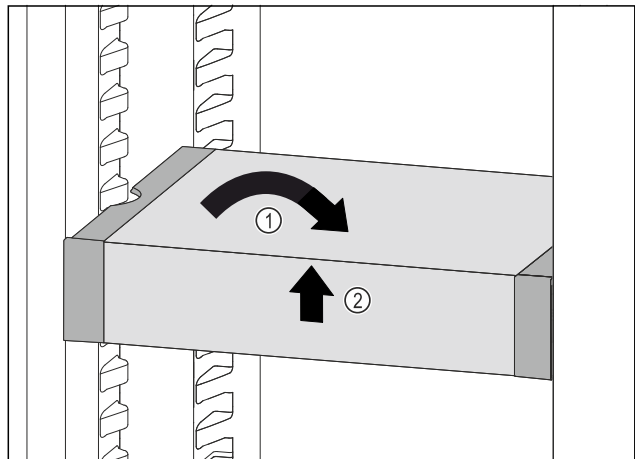

Fig. 64
- ▶ Set VarioSafe straight. Fig. 64 (1)
- ▶ Lift VarioSafe at the front. Fig. 64 (2)